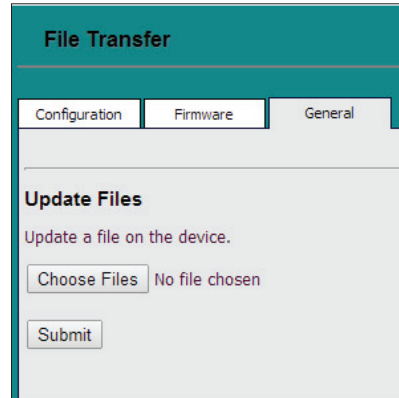

Figure 15: File Transfer - General Tab
- 4.) Refer to the *File Transfer Window* below (**Figure 15**). In the *General Tab*, *click* **<Browse>** and locate the file you saved in Step 1. Then click on **<Submit>**. When the download is complete, *click* on the **<System Restart>** button.